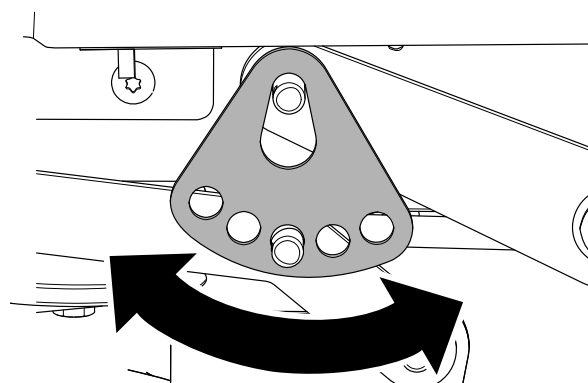

Figure 67
7. Rotate the height-of-cut plate to a different hole so that it supports the weight of the mower deck after you install the plate (Figure 67).
8. Install the washer and hairpin cotter (Figure 67).